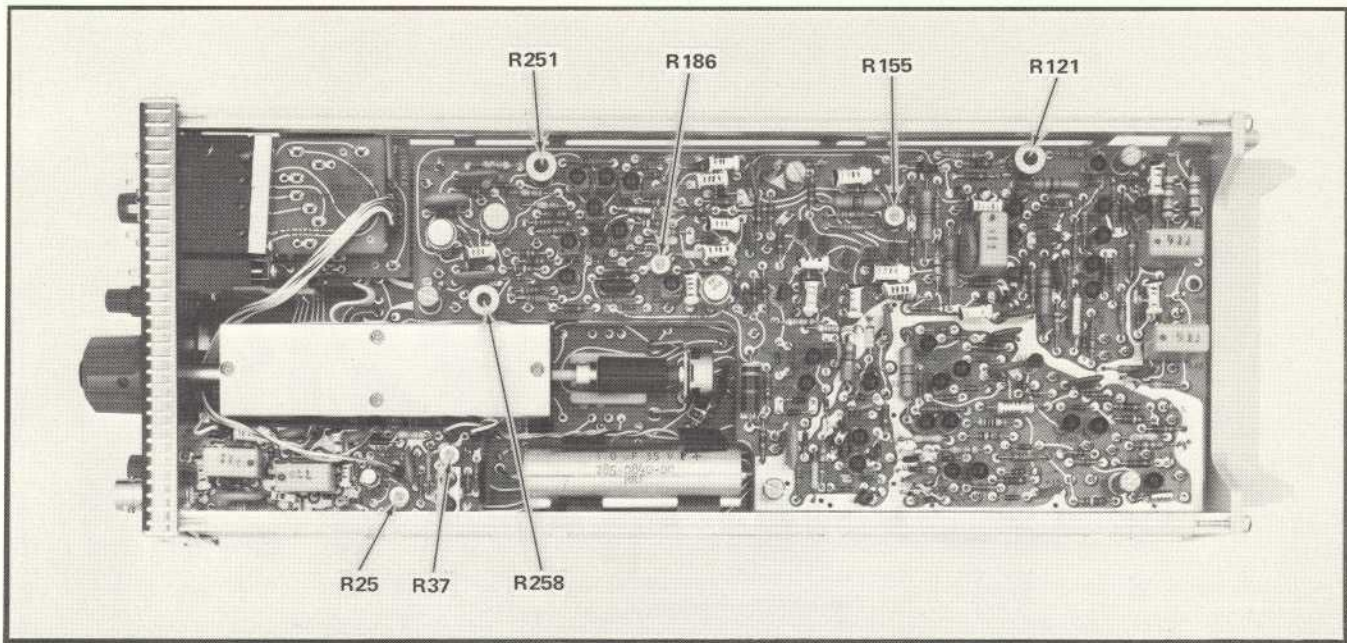

Fig. 5-2. Location of adjustments on Trigger Board.
c. **ADJUST—R251 for a stable display. See Fig. 5-2 for location of adjustment.**
2. Adjust Lower Positive Slope P-P AUTO Level (R258) ❷
b. **ADJUST—R258 for a stable display. Refer to Fig. 5-2 for location of adjustment.**
3. Adjust Negative Slope P-P AUTO Level (R155) ❸
b. **ADJUST—R155 for a stable display. Refer to Fig. 5-2 for location of adjustment. Check for stable triggering over the full 360° range of the LEVEL/SLOPE control.**